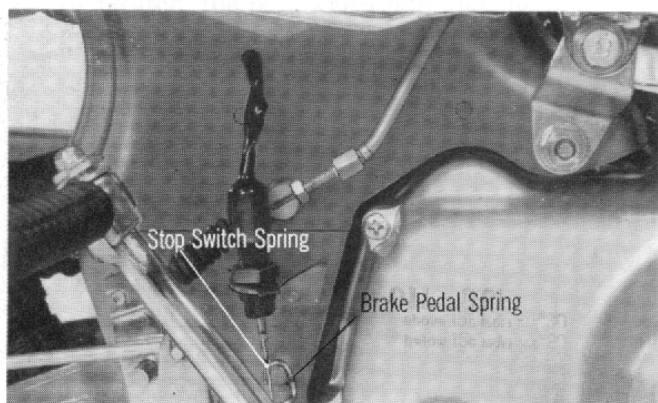
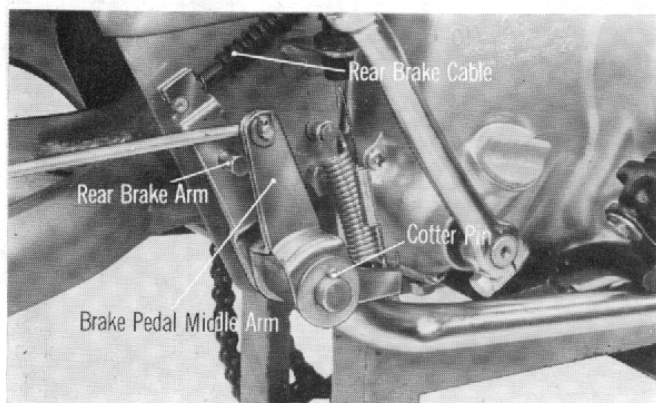

Fig. 91
Fig. 92
- (1) Remove the exhaust pipe and the muffler.
- (2) Remove the brake rod from the brake arm by loosening the brake adjusting nut, then hook off the brake pedal spring and stop switch spring. (Fig. 91)
- (3) Remove the drive chain cover.
- (4) Disconnect the rear brake cable from the rear brake arm.
- (5) Pull out the cotter pin.
- (6) Extract the brake pedal middle arm, brake pedal and rear brake arm with a washer from the brake pivot pipe. (Fig. 92).